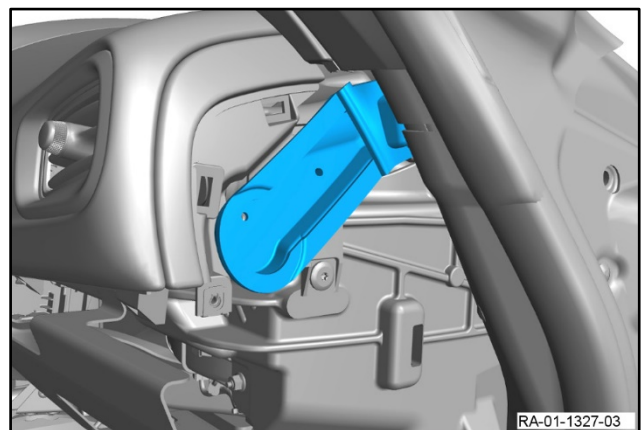

Figure 2
3. Remove the duct for the door (refer to Figure 2).
7. Install the duct for the door (refer to Figure 2).
4. Install the duct for the door (refer to Figure 2).